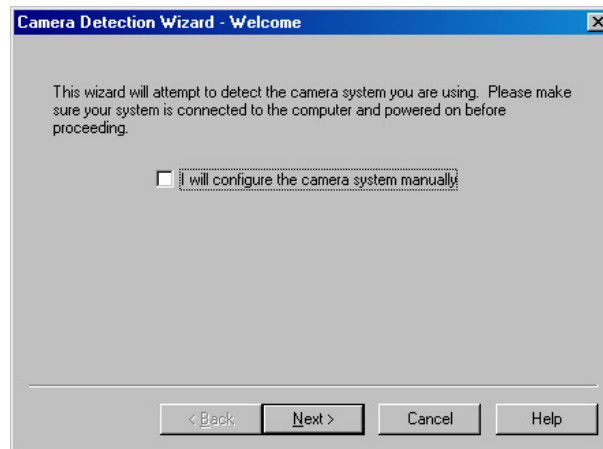

Figure 11. Camera Detection Wizard - Welcome dialog
3. On the **Welcome** dialog (Figure 11), leave the checkbox unselected and click on **Next**.